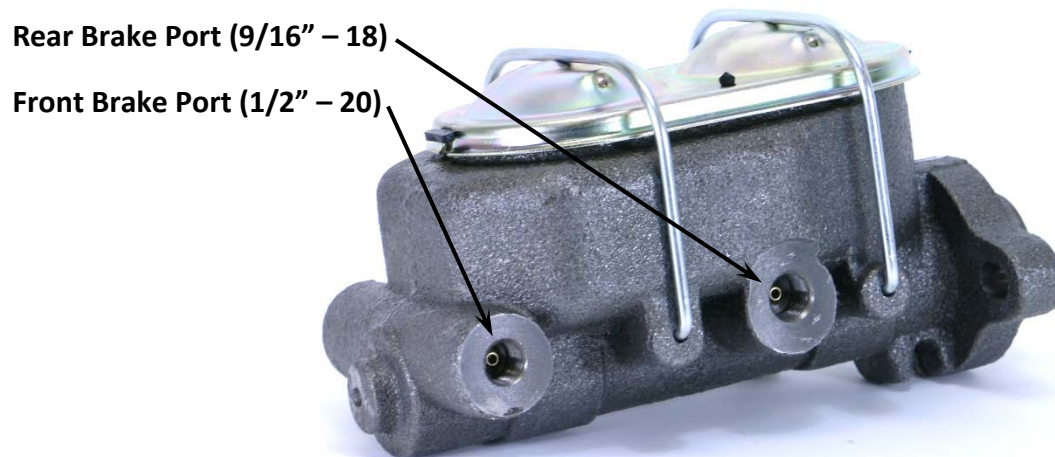

Figure 1 - Brake Line Orientation
7. Route the brake lines from the master cylinder to whatever valve is being used in the system. Refer to Figure 1 below for proper orientation of the brake lines to the master cylinder.